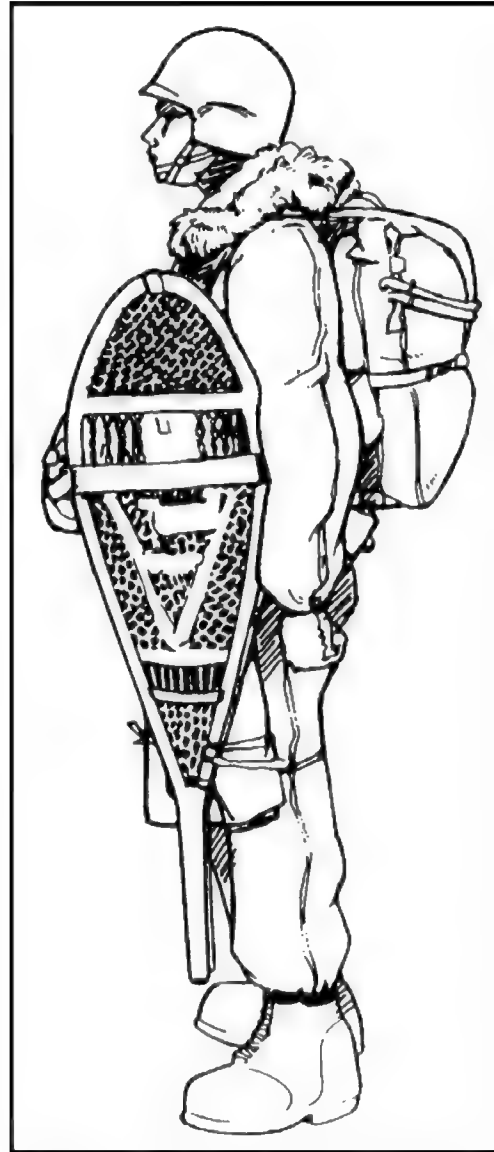

Figure 13-9. Left side view with weapons case.
c. The stowed lowering line is secured with two retainer bands to the left (right) side of the vertical bar of the combat pack. After the pack, snowshoes, and rifle are attached to the parachutist, the lowering line ejector snap is passed through the rifle sling and attached to the accessory attaching ring of the adapter web. If the adapter web is not used, the ejector snap is attached directly to the D-ring on the harness. If the weapons case is attached to the snowshoes (Figure 13-9, page 13-8), the lowering line ejector snap is passed between the case and the cotton chafe material, which is attached to the case V-ring.